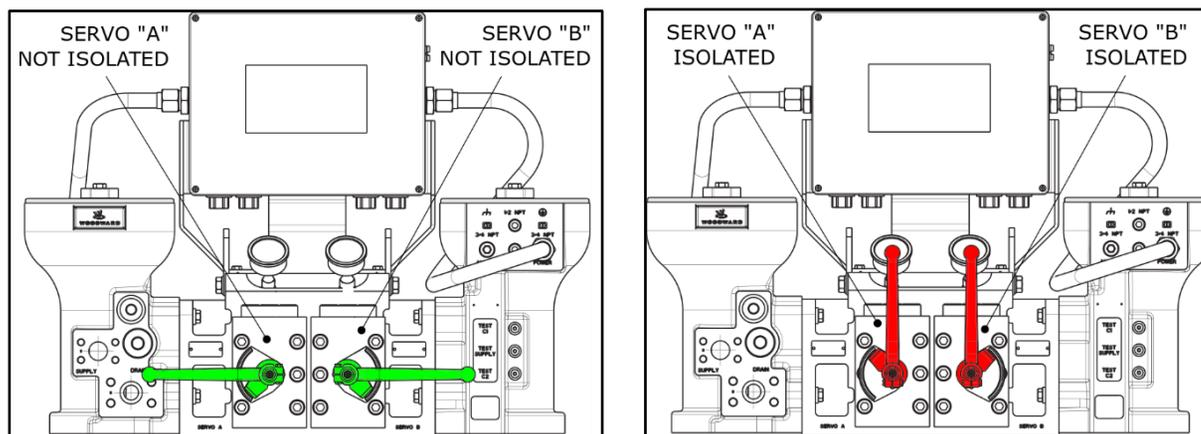

Figure 2-86. VS-DX Isolation Valves Position
78. Slowly open the isolation valve that corresponds to the newly installed VariStroke (isolation valve nearest new VariStroke) by turning the crank to the horizontal position. **During this step, carefully monitor that there is no external leakage from the VS-DX skid and its surroundings.** (Figure 2-86) [Notate action in Checklist: ID #3].